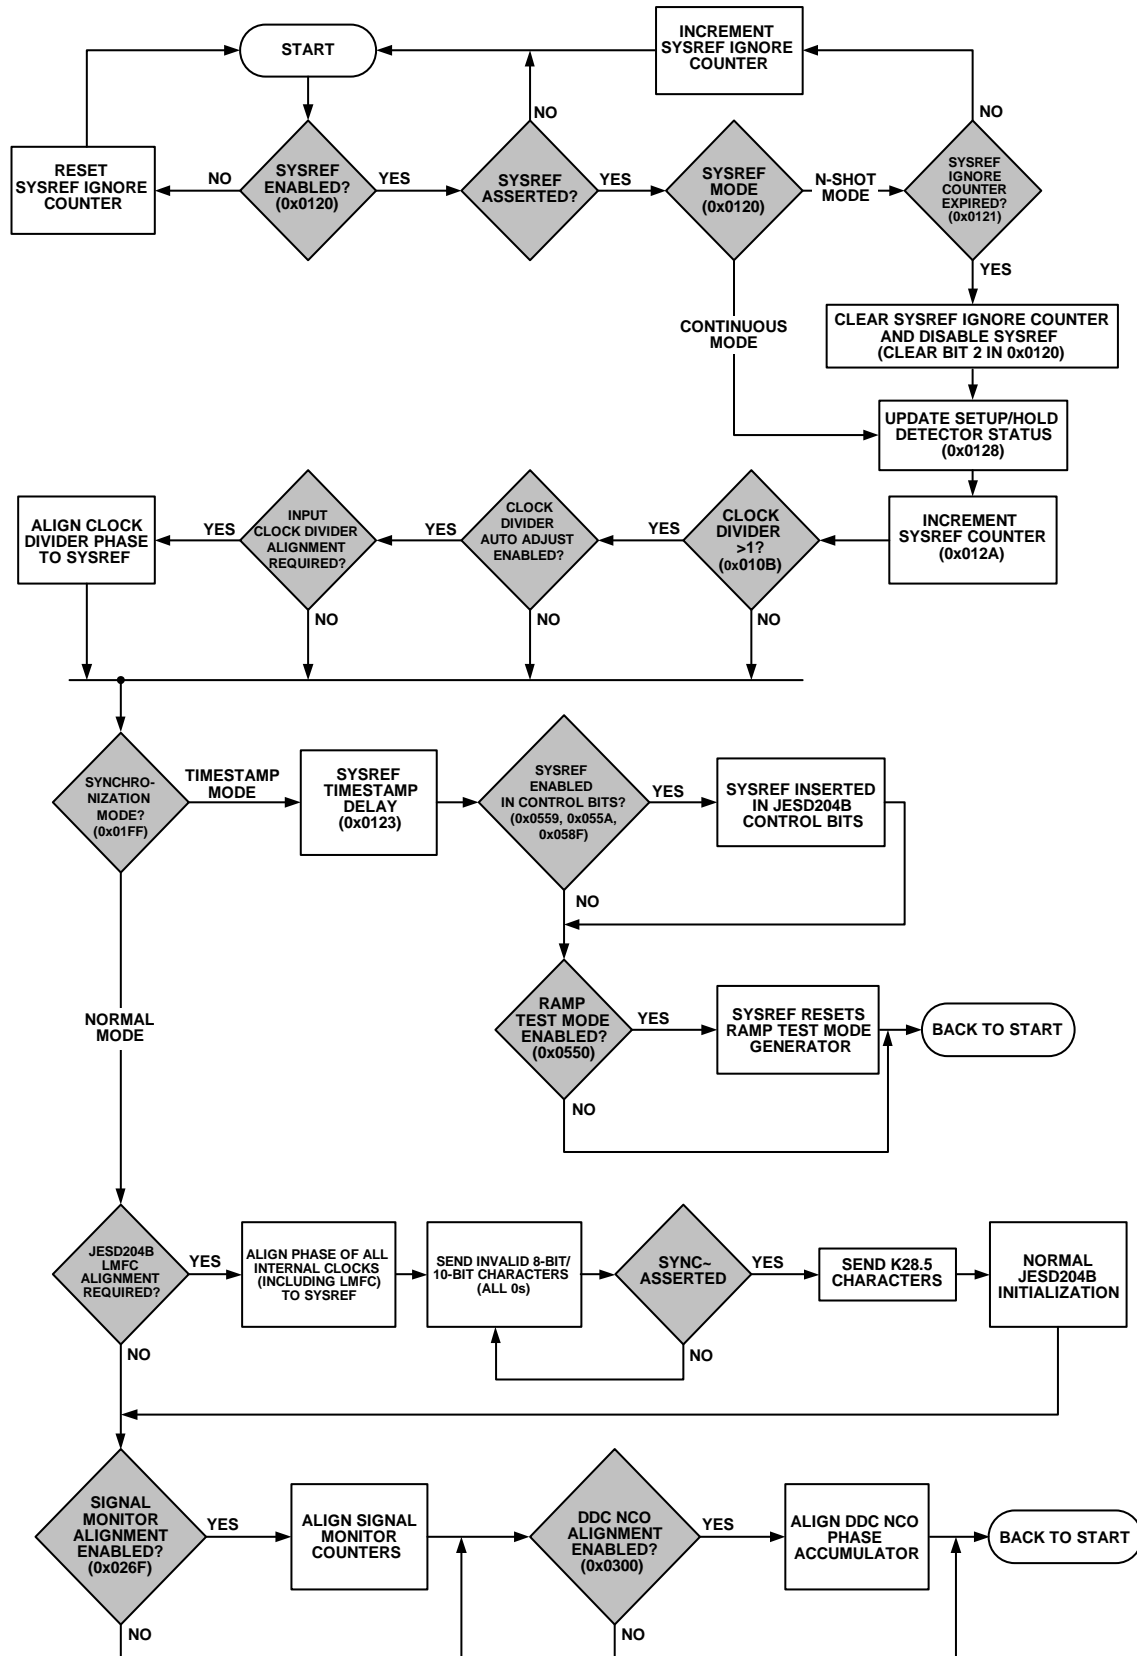

Figure 133. SYSREF± Capture Scenarios and Multichip Synchronization
The flowchart shown in Figure 133 describes the internal mechanism for multichip synchronization in the AD9695. There are two methods by which multichip synchronization can take place, as determined by the chip synchronization mode bit (Register 0x1FF, Bit 0). Each method involves different applications of the SYSREF± signal.
The default state of the chip synchronization mode bit is 0, which configures the AD9695 for normal chip synchronization. The JESD204B standard specifies the use of SYSREF± to provide deterministic latency within a single link. This same concept, when applied to a system with multiple converters and logic devices, can also provide multichip synchronization. In Figure 133, this is referred to as normal mode. Following the process outlined in the flowchart ensures that the AD9695 is configured appropriately. Consult the logic devices user intellectual property (IP) guide to ensure that the JESD204B receivers are configured appropriately.